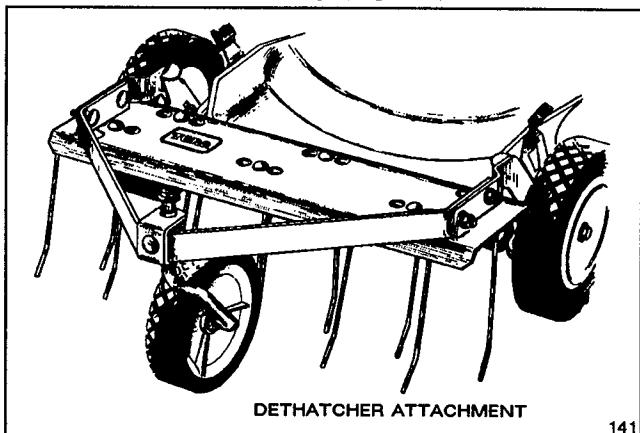

Figure 25
2. **Dethatcher Kit, Model No. 59131**—Installs in minutes. Front mounted for easy maneuverability. Spring tines loosen thatch for recycling or clean vacuuming into grass bag (Fig. 25).